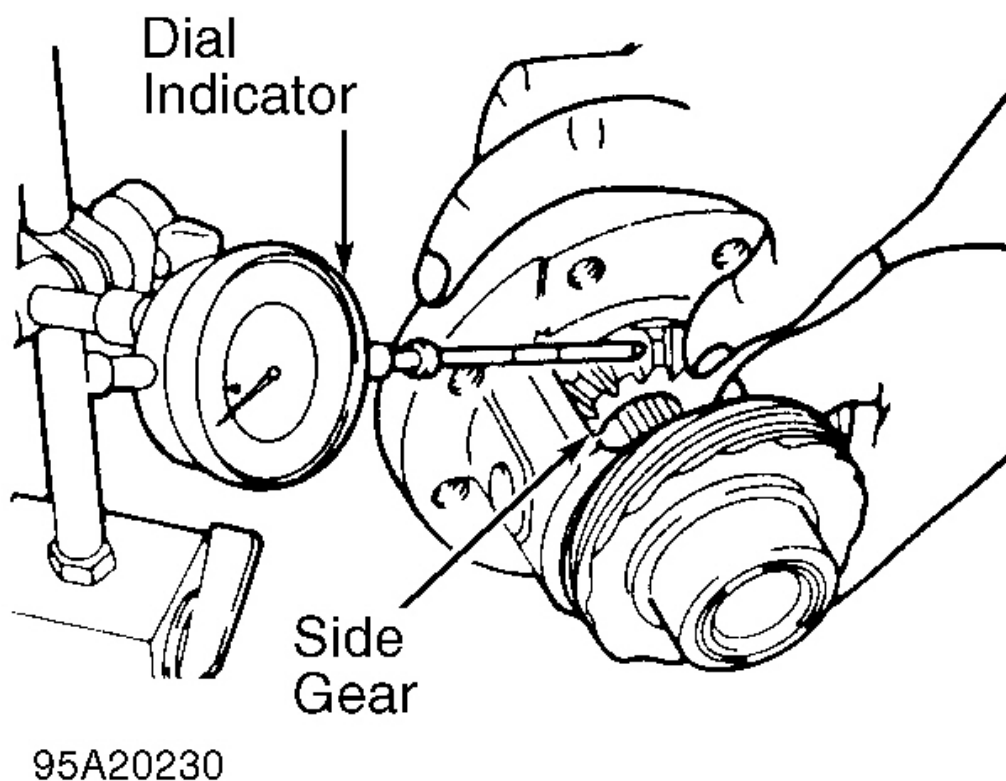

Fig. 31: Measuring Side Gear Backlash
3. Using dial indicator, measure side gear backlash between side gear and pinion gear on both sides of the differential case. See **Fig. 31** .